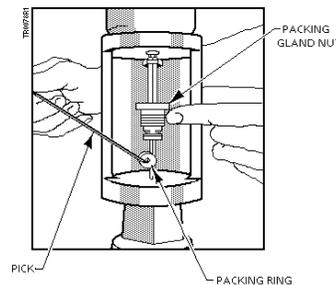

Figure 7. Split Ring Packing Removal.
2. Remove the three packing rings from above the lubricator spacer with a pointed rod or pick (Figure 7).
5. Remove the top three packing rings, the packing spacer, and the lower packing ring with a pointed rod or a pick (Figure 7).